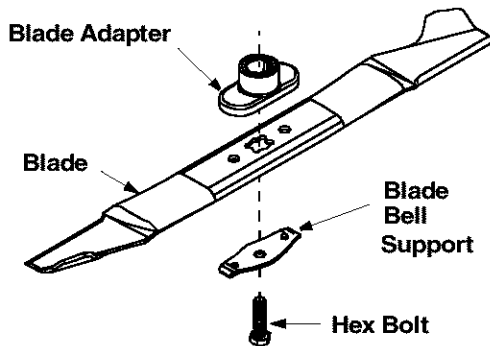

Figure 13
- Remove the bolt and blade support which hold the blade and adapter to the engine crankshaft. See Figure 13. Remove the blade and the adapter from the crankshaft.
- Install the blade adapter on the crankshaft with the “star” away from the engine. Refer to Figure 13. Place the blade with the side marked bottom (or with part number) facing away from the adapter.